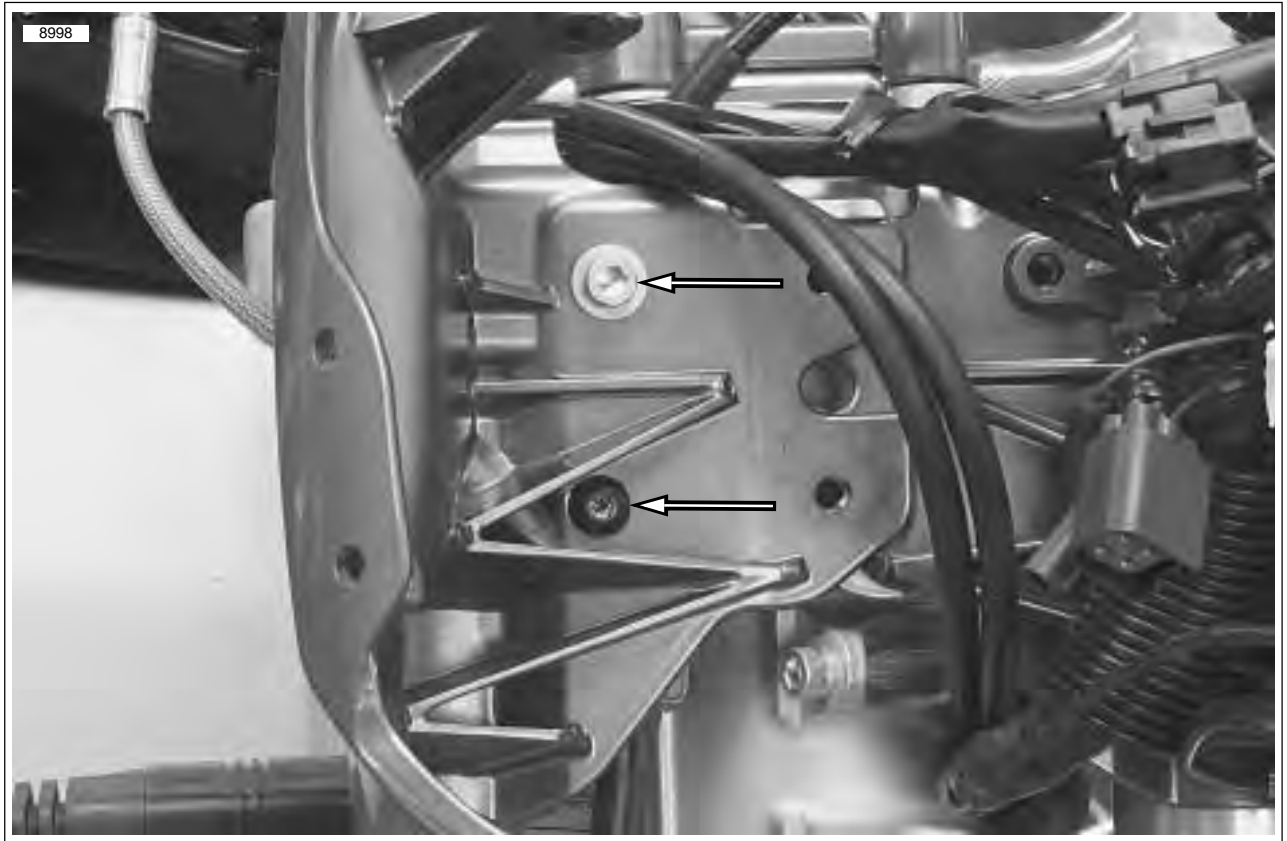

Figure 2-106. Right Front Module Fastener and Brake Line P-Clamp Fastener
See Figure 2-106. Once the ignition switch has been removed there will be two remaining fasteners.
7. See Figure 2-106. Remove fastener attaching p-clamp to rear side of right front module.
8. See Figure 2-106. Loosen but do not remove final fastener securing the right front module to upper triple clamp.
10. See Figure 2-106. Remove the final fastener and the right front module.
1. See Figure 2-106. Install right front module leaving single fastener loose.